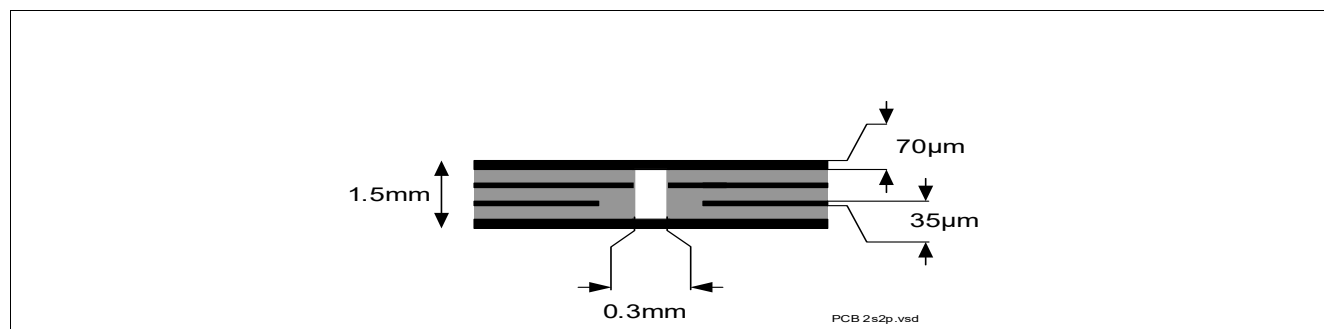

Figure 4 2s2p PCB Cross-Section
2) Specified R_{thJA} value is according to JEDEC JESD51-2,-5,-7 at natural convection on FR4 2s2p board with 1 W power dissipation equally dissipated for both channel at $T_A = 105^\circ\text{C}$; The product (chip + package) was simulated on a 76.4 x 114.3 x 1.5 mm board with 2 inner copper layers (2 x 70 μm Cu, 2 x 35 μm Cu). Where applicable, a thermal via array under the exposed pad contacts the first inner copper layer. Please refer to Figure 4.